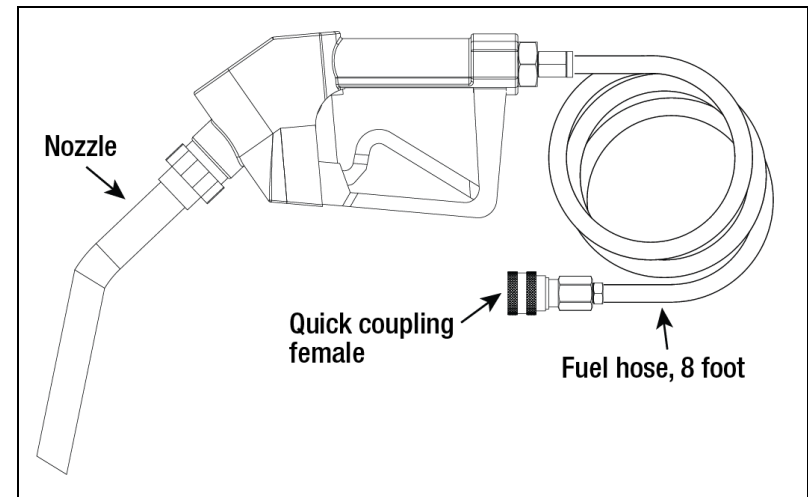

Figure 2.
2. Get the drain hose from the kit (see Figure 2) and attach the quick connect end of the hose to the waste water drain connector, marked 'D' on top of the FC manifold.